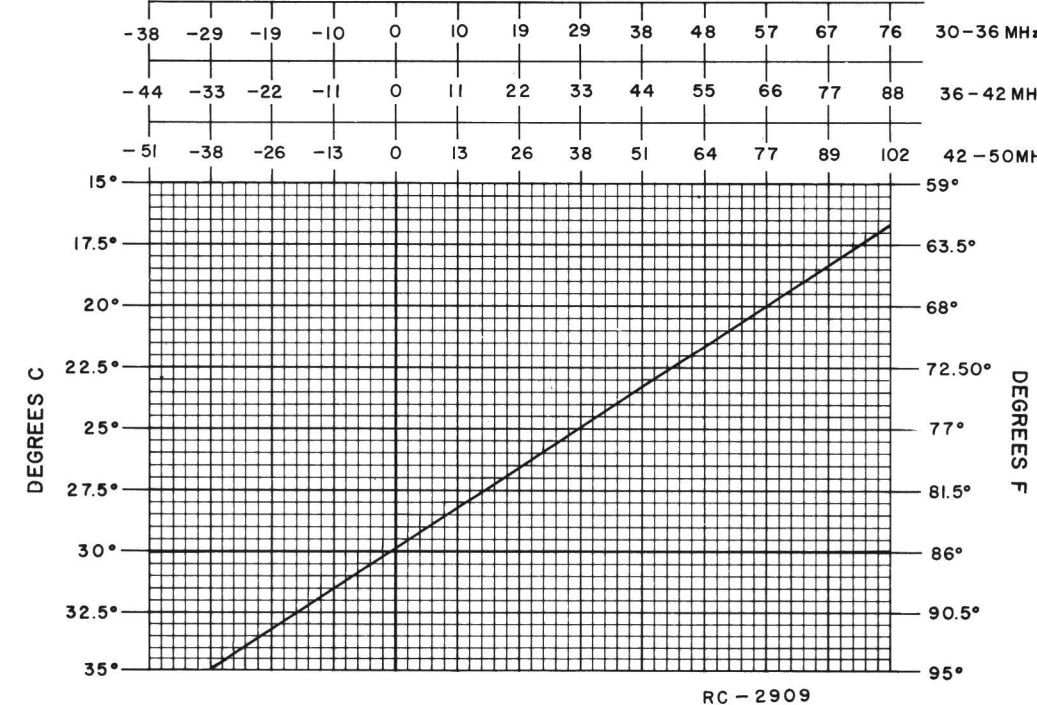

Figure 3 - Frequency Characteristics Vs. Temperature
First, check the frequency to determine if any adjustment is required. (Refer to frequency offset chart, Figure 3). The frequency measurement requires equipment with an absolute accuracy that is 5 to 10 times better than the tolerance to be maintained. When adjusting the frequency, the entire radio should be as near as possible to an ambient temperature of 60°C (86°F).
To set crystal frequency using "beat frequency" method, the temperature should be at 30°C (86°F). If the temperature is not 30°C, then offset the "ON FREQUENCY" signal (at the receiver input), as a function of actual temperature, by the frequency FREQ. FACTOR shown in Figure 3.
- Maintain the radio at 30°C (±5°C, -10°C) and offset the oscillator, as a function of actual temperature, by the frequency error shown in Figure 3.